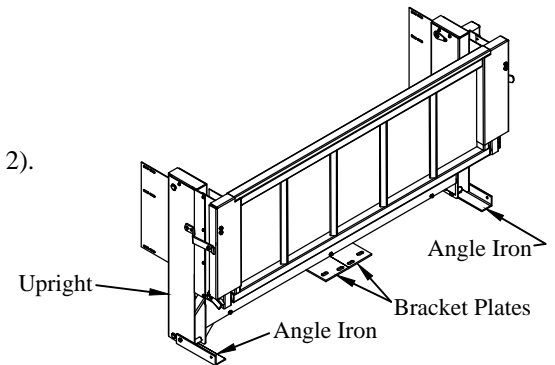

Figure 2: Complete liftgate (G² shown).
4. Unbolt and Save the two (2) angle irons attached to the liftgate uprights (Figure 2).
5. Remove and Save the two (2) bracket plates attached to the liftgate (Figure 2).